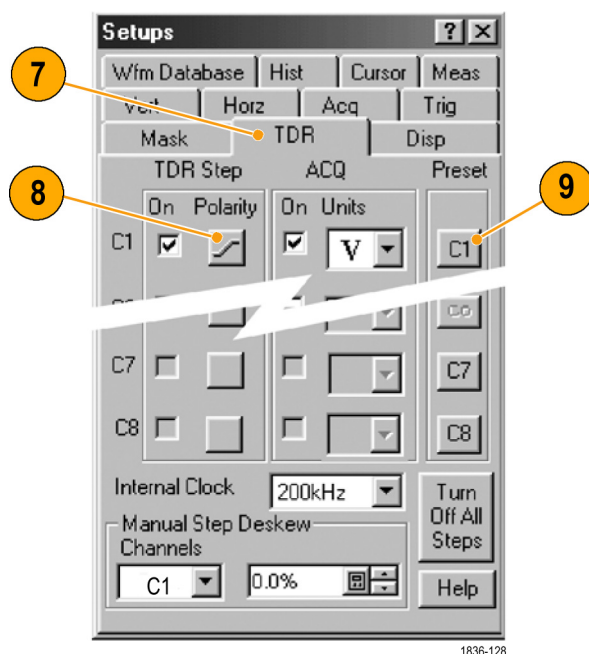

Figure 13: TDR parameter setup
7. Set the Channel 1 sampling head to TDR mode: press the **SETUP DIALOGS** button and select the TDR tab. (See Figure 13 on page 18.)